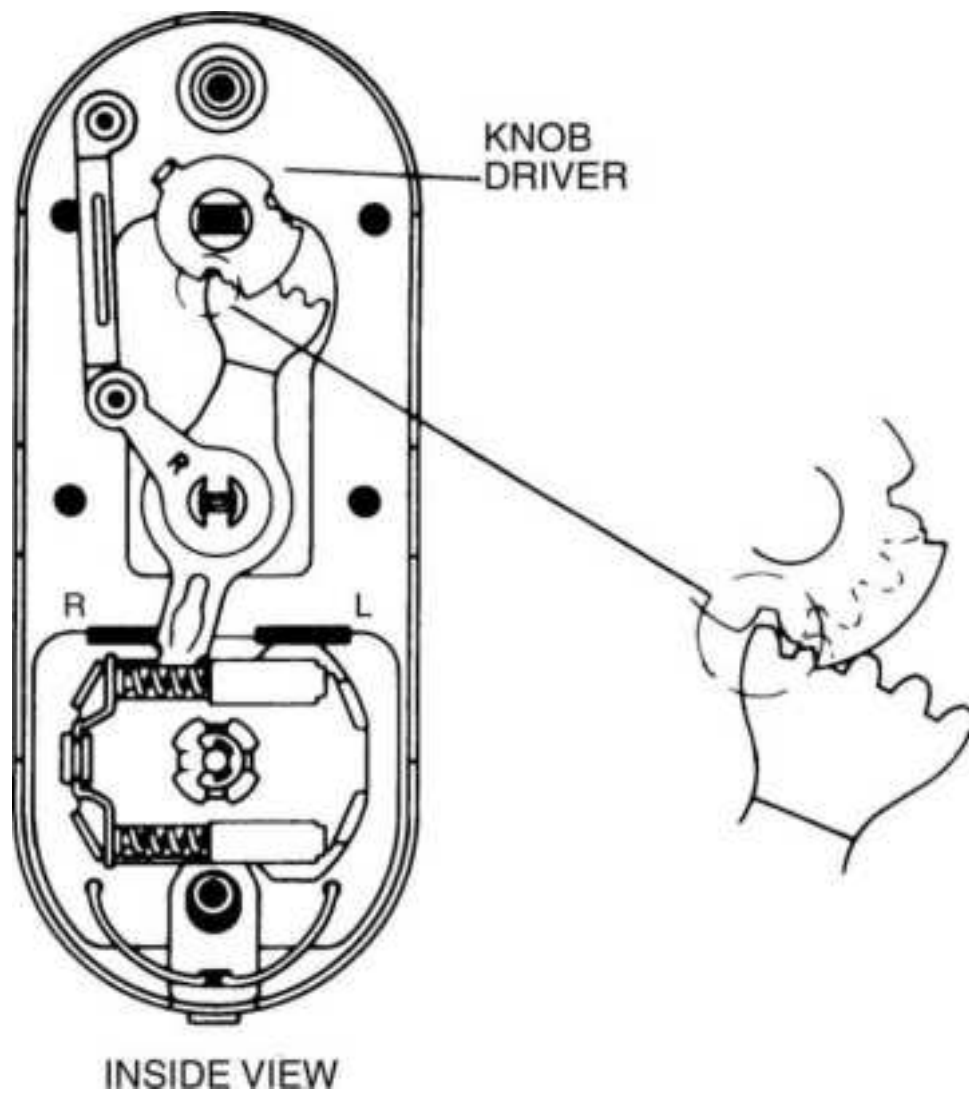

**Figure 13.107** Right-hand conversion, Step 15.
15. Install the knob driver (Fig. 13.107 ).